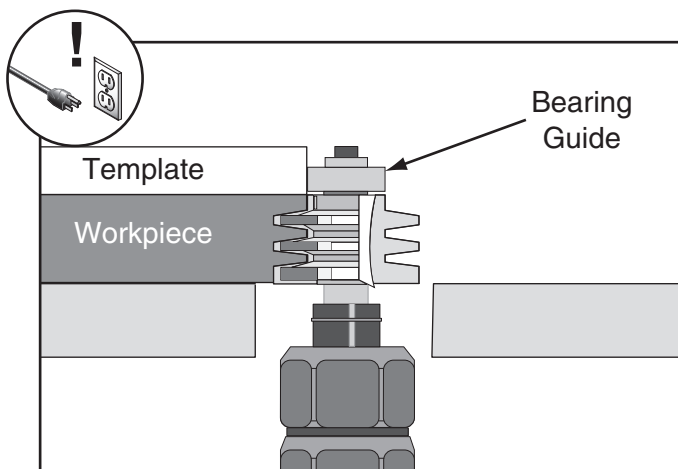

Figure 39. Using a template and bearing guide for free-hand routing.
6. Install a router bit with bearing guide as directed by router manufacturer's instructions, then raise it to desired height (see **Figure 39**).